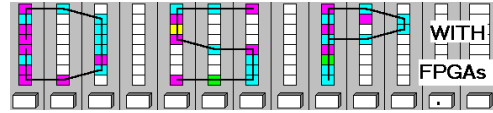

Figure 1.
- Determine the transfer function for the system in Figure 1.